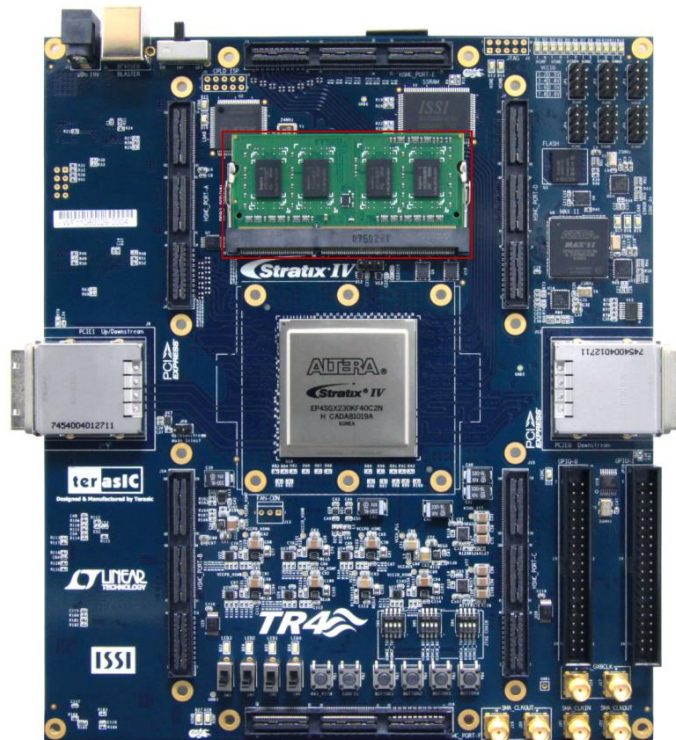

Figure 5-7 Insert the DDR3-SDRAM SODIMM for the DDR3 1G Demonstration
- Make sure DDR3-SDRAM SODIMM (1G) is inserted into your TR4 board, as shown in Figure 5-7.